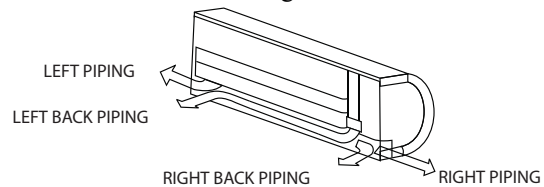

Fig. 9 — Condensate Pipe Routes
- Condensate piping can be routed in one of the four directions shown in Fig. 9.
- While routing the condensate from right to left, behind the unit, make sure all the piping is wrapped and placed in the piping chase as shown in Fig. 9.